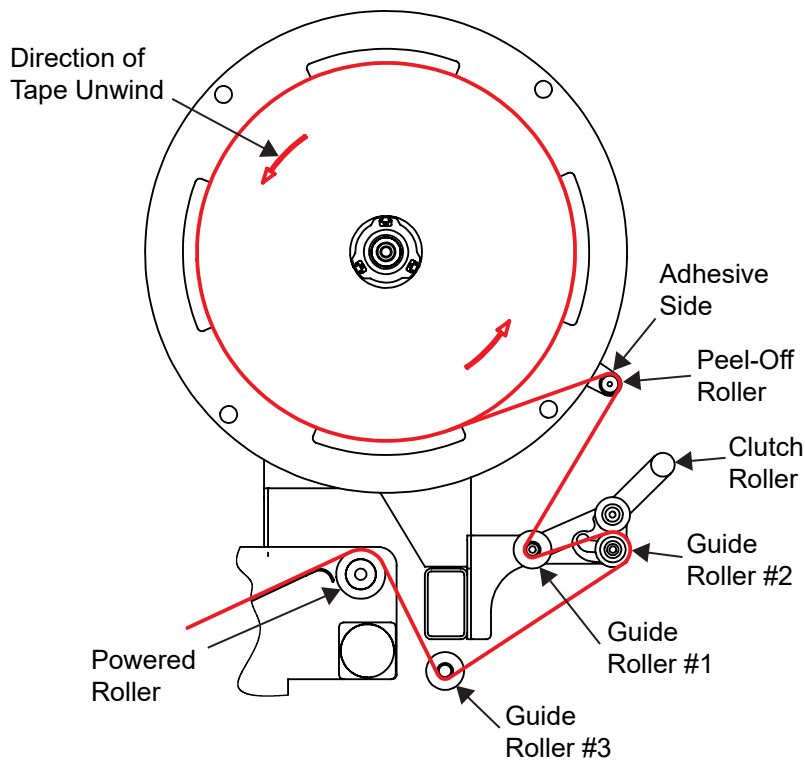

Figure 29: Top Tape Path
2. Install tape roll on to mandrel making sure the unwind direction is counterclockwise (refer to Figure 29).